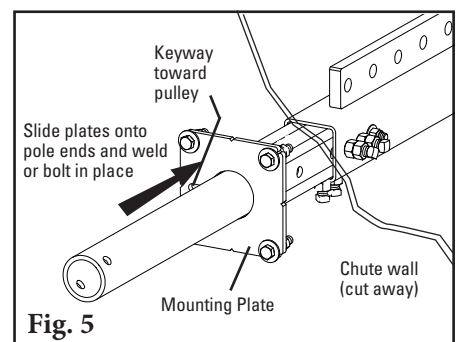

Fig. 5
5. **Install the mounting plates.** Position both mounting plates with the keyways toward the pulley and weld or bolt the mounting plates in place using bolts provided (Fig. 5).